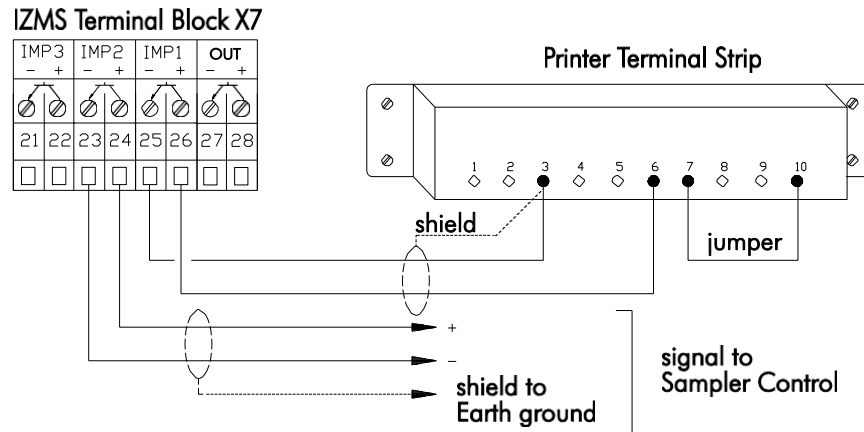

Figure 3-16. Veeder-Root Series 7690 and SA11 Sampler Control Signal Wiring Configuration
- Veeder-Root Series 7690 and SA-11 Sampler Control (Figure 3-16)